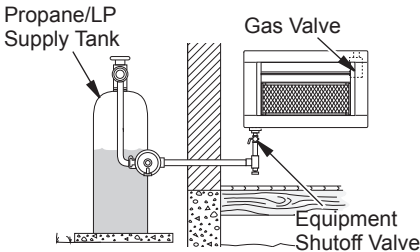

Figure 18 - Checking Gas Joints for Propane/LP Gas
3. Check all joints from gas supply (see Figure 18 or 19) to equipment shutoff valve. Apply a noncorrosive leak detection fluid to all joints. Bubbles forming show a leak.
4. Check all joints from equipment shutoff valve to control valve (see Figure 18 or 19). Apply a noncorrosive leak detection fluid to all joints. Bubbles forming show a leak.